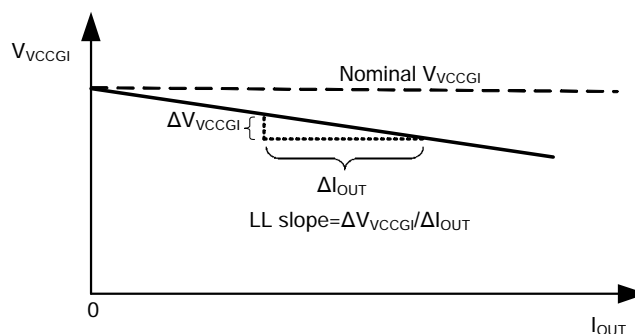

Figure 2. V_{VCCGI} Curve with Load Line Function
APW8858 implements a load line function in VCCGI voltage regulator. The load line function virtually mimics a load line behavior as depicted as the Figure 2. In order to achieve load line function, the APW8858 uses an RC network, R9 and C45, to sense VCCGI Inductor's current. The RC value should meet the following equation (1) to acquire high current sensing accuracy and to minimize voltage under-shoot or over-shoot of VCCGI during load steps.